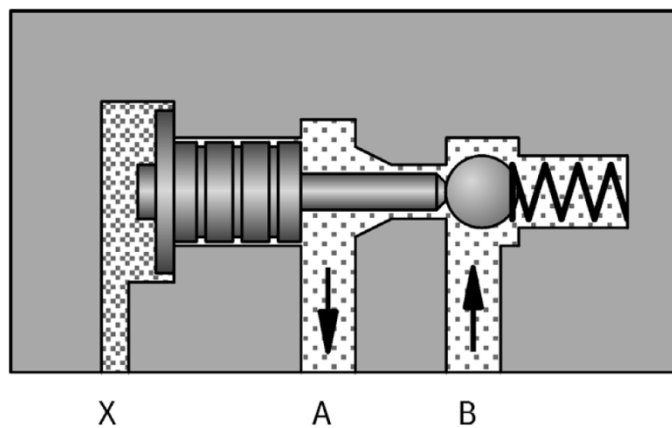

FIG 13.
- Flow is possible from ports "B" to "A" due to pressure at port "X". (Fig 13)